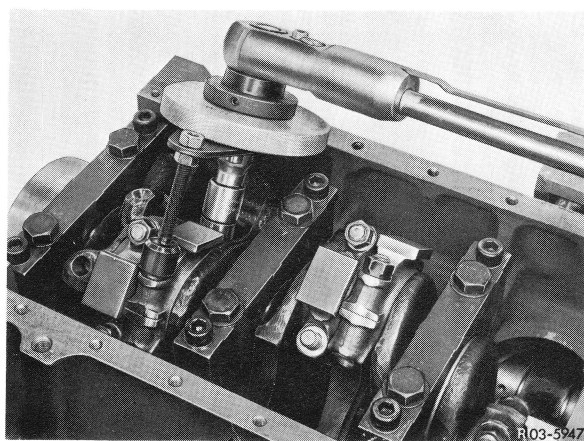

Fig. 2
**4** Then tighten to specified angle ( $90^\circ + 10^\circ$ ) with angle of rotation tightening tool (Fig. 2).